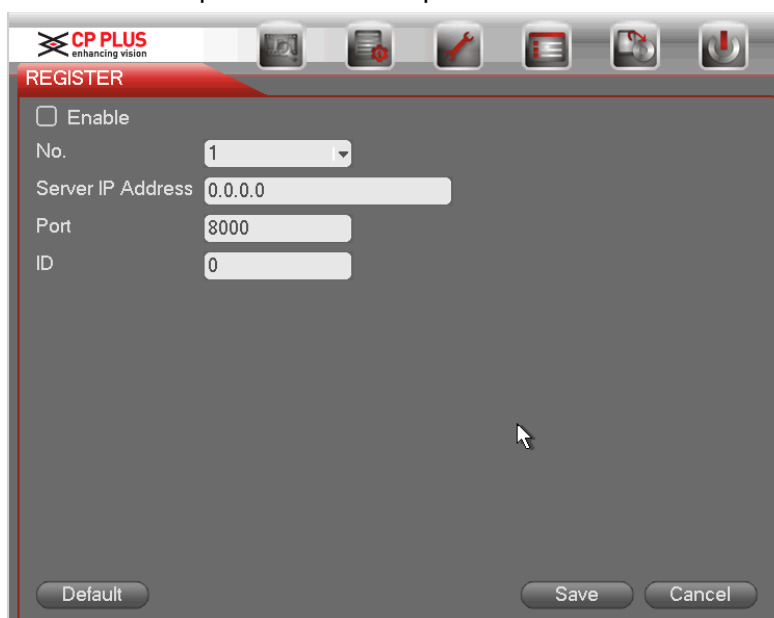

Figure 2-61
1) The setup interface is shown as in Figure 2-61.
3) Now you can add device. Please do not input default port number such as the TCP port in the mapping port number. The device ID here shall be the same with the ID you input in Figure 2-61. Click Add button to complete the setup.